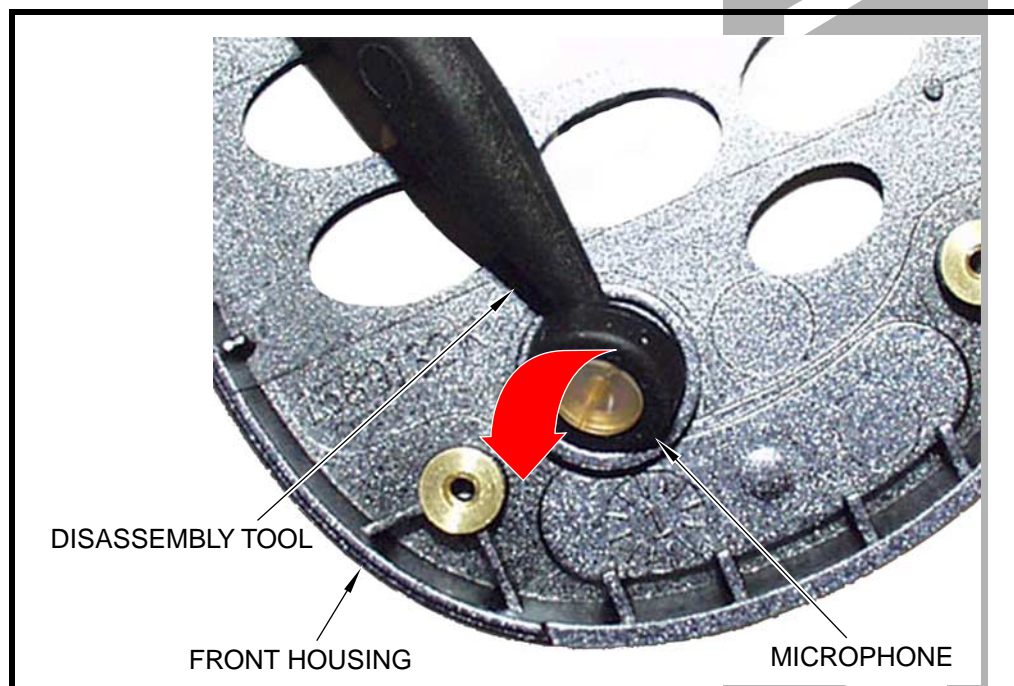

Figure 15. Removing the microphone assembly
2. Using the flat end of the disassembly tool, carefully lift the microphone assembly from its front housing cavity. See Figure 15.